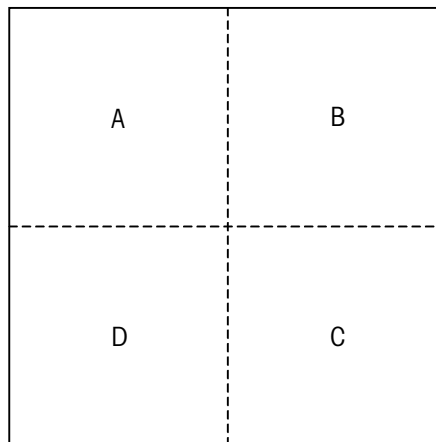

Figure 4-1: Test Weight Locations
2. Figure 4-1 shows test weight locations (A, B, C, and D) at the center of each quadrant of the scale platform. Place a test weight (equal to half the rated scale capacity) at location A and record the weight reading. Then move the test weight to location B and record the weight reading. Continue until you have taken a weight reading at each of the four locations.